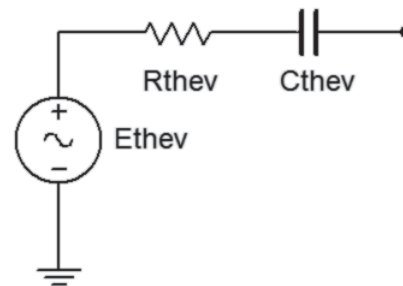

Figure 11.2
5. Using the decade resistance box and capacitor, build the Thevenin equivalent circuit of figure 11.2 and apply the 1 kΩ load resistor. Measure the load voltage and record in Table 11.1. Compare with the values of the original (non-Thevenized) circuit and determine the deviation between the original and Thevenized circuits.